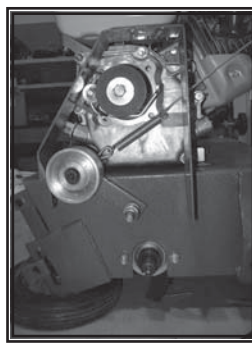

Fig.2: Remove drive pulley and drive belt
5. Remove drive pulley and drive belt. (Fig.2)